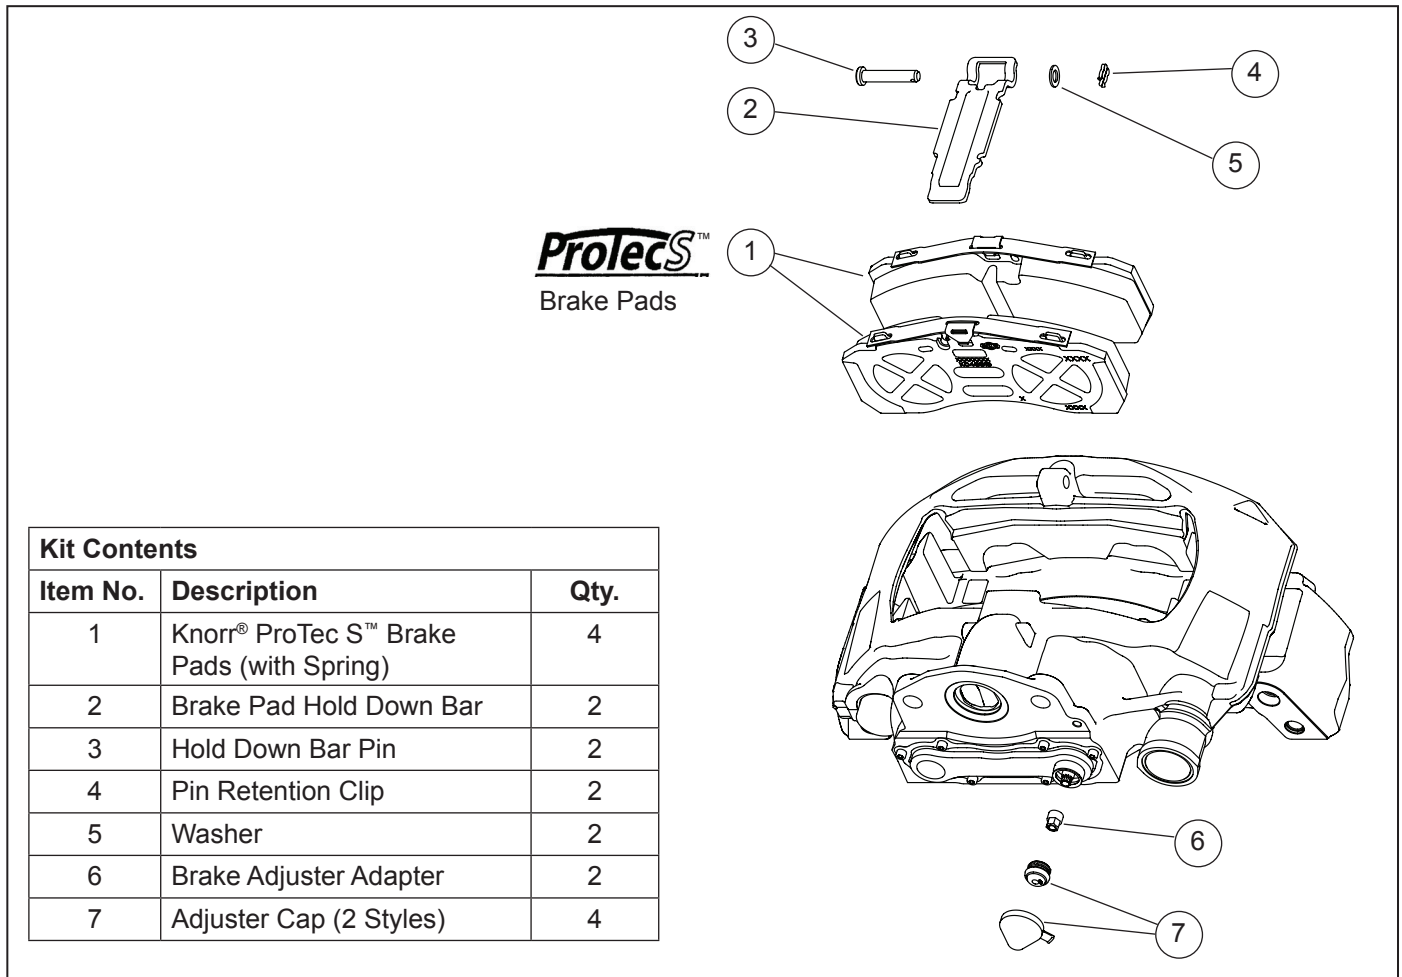

Figure 1 – Air Disc Brake Pad Replacement Components
6. Select the correct replacement adjuster cap (7) from those supplied with the kit. Lightly grease the adjuster cap (7) with Renolit® HLT2 white grease (part number I I14525) and install the cap.
7. Push the new pad retainer bar (2) into the groove of the caliper. Press down on the pad retainer bar (2), and insert the pad retainer pin (3), with the pin pointing downwards, where possible. Install the supplied washer (5) and then the spring clip (4). (See Figure 1).